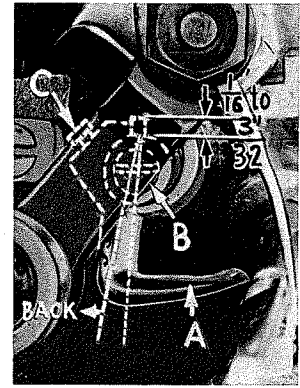

Fig. 8
Insert upper looper (A, Fig. 8) in its holder. Screw (B) holds upper looper in its holder, and permits it to be pushed in or out, or turned around its shank. Insert upper looper holder into upper looper shaft, if it is not already in place. Screw (C) on clamp holds the upper looper holder in the shaft. Locate upper looper in its holder so that the shank extends  $1/16$  to  $3/32$  inch beyond holder.
When the upper looper is at the right end of its stroke, upper looper holder should be set to position upper looper shank back of vertical (Fig. 8). Be sure there is a clearance between heel of looper and casting.